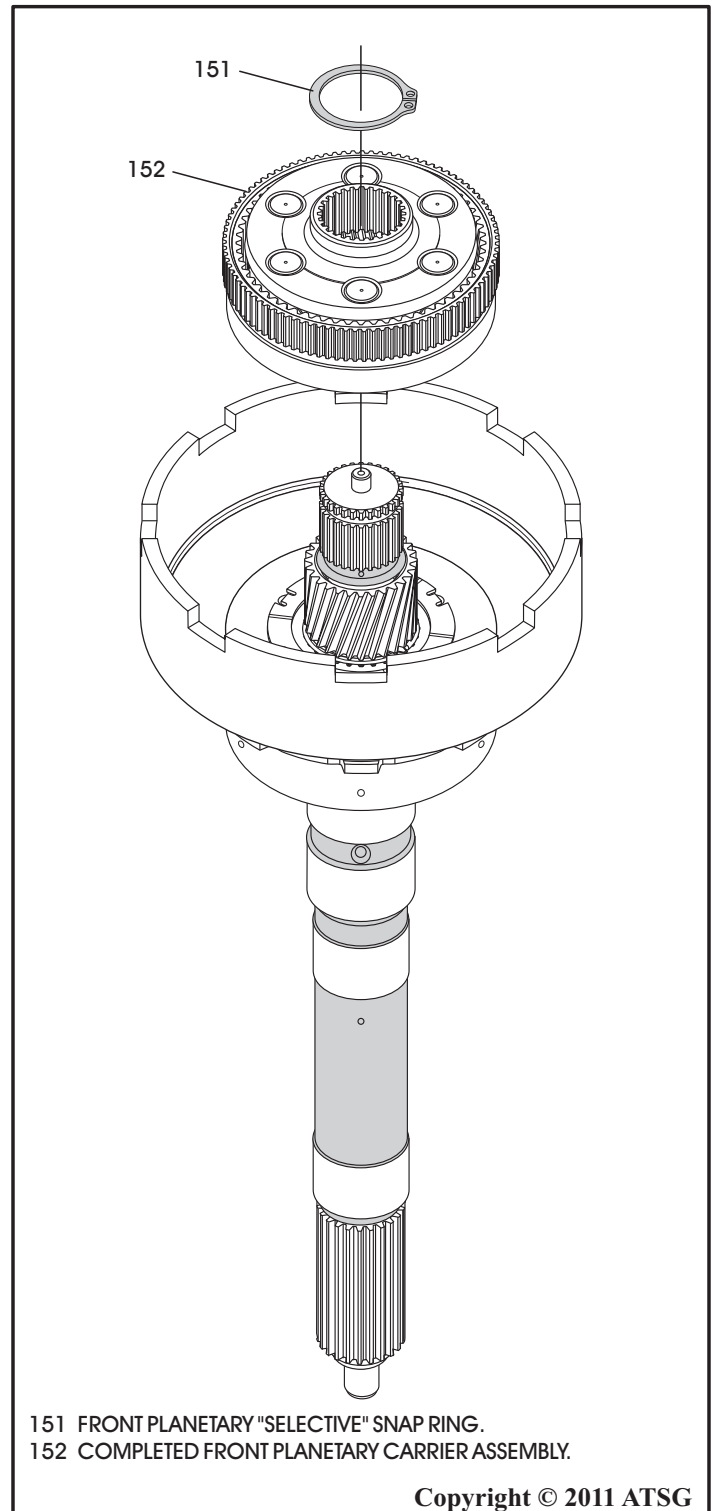

Figure 143
21. Install completed front planetary carrier and ring gear assembly, as shown in Figure 143.
22. Install the selective snap ring into groove of the intermediate shaft, as shown in Figure 143.